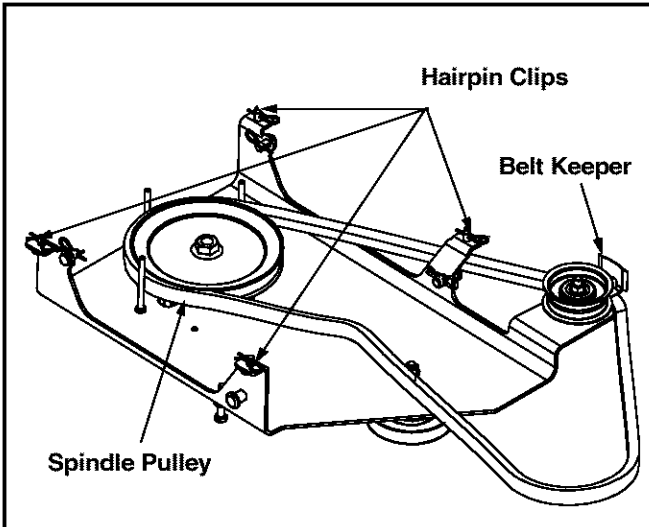
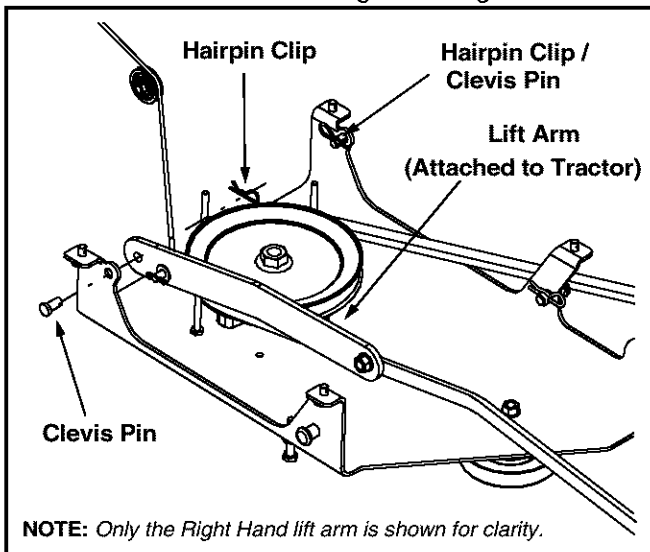

Figure 9
Figure 10
NOTE: The undercarriage is illustrated in Figure 9 & Figure 10 without the idler assembly attached, as it would be if mounting to a tractor equipped with any deck other than a 54-inch.
1. Remove and retain the four hairpin clips from the weld pins found the top side of the undercarriage assembly. See Figure 9.
4. Remove the two hairpin clips and clevis pins found on the rear portion of the undercarriage and align the holes in the rear of the lift arms with the holes in the rear of the undercarriage. See Figure 10.